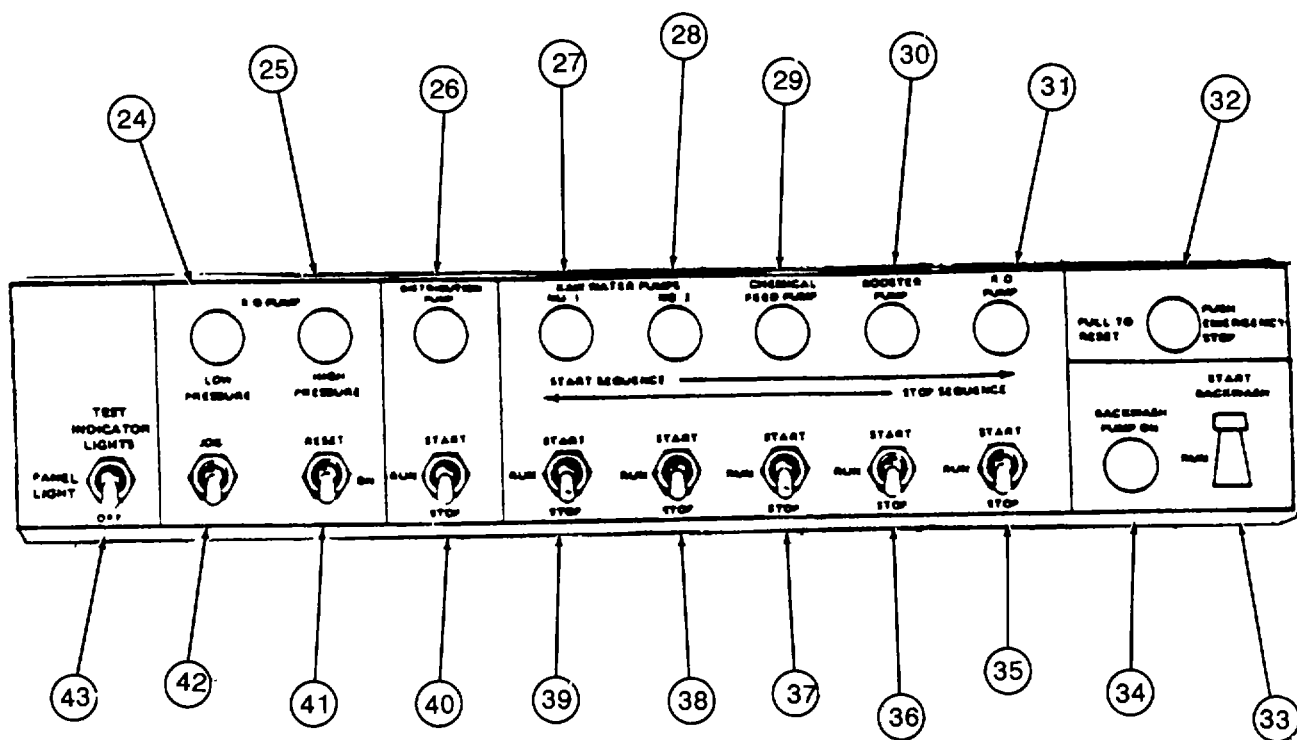

*Figure 2-3. Water Meter*
**2-4.1. WATER METER.** The water meter is located on the floor of the frame directly behind the booster pump as shown in fig. 2-3. This meter is used to indicate the total number of gallons, in tenths of a gallon, of product water the unit has produced. The number of gallons is read directly from the numerals in the small window and the tenths of gallons from the position of the needle on the dial face.